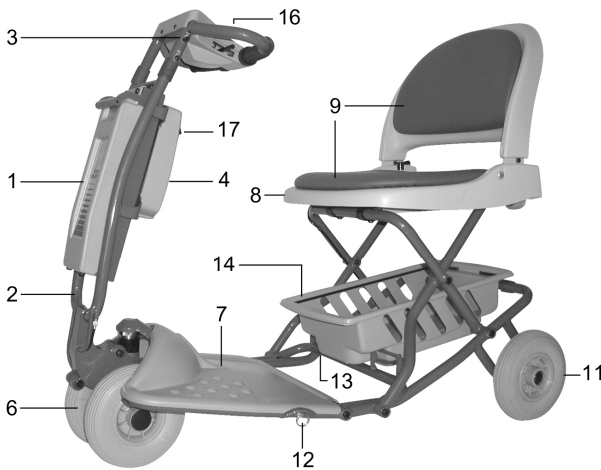

Figure 1
3.1. **EasyTravel** parts – (Figure 1)